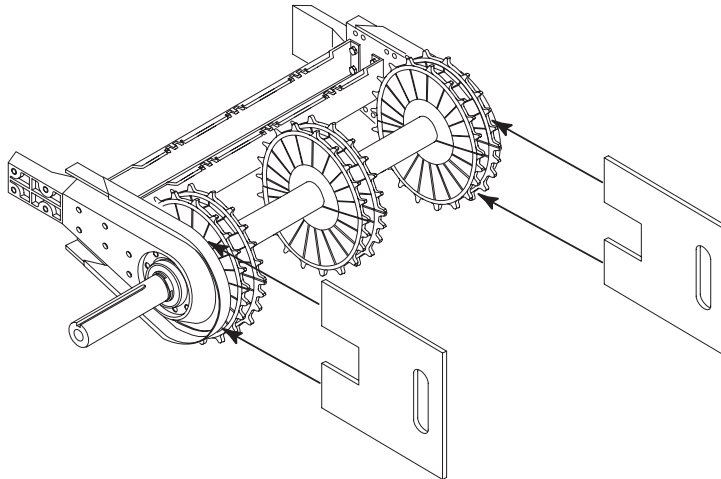

Figure 45
- Loosen the bolts in the sprocket that is rubbing against the side plate. Place a shim plate 0.075" (2mm) thick between the side plate and the sprocket, as shown in *Figure 45*, and tighten the sprocket bolts. Remove the shim plate. While turning the shaft several times, make sure the sprocket is no longer rubbing against the side plate. If this does not help the problem, replace the rubbing sprocket with a new one.